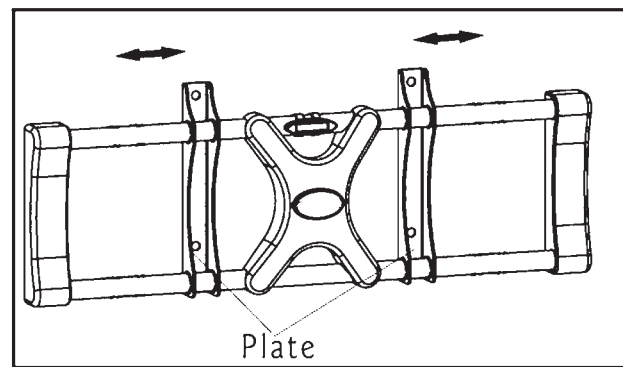
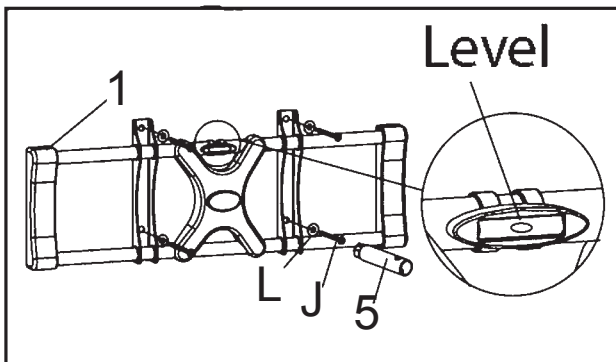

Fig. 3c
Fig. 3d
2. Place the wall mount flat against the wall with the center of the mount in the desired location, aligning the holes in the mount with the studs (Fig 3c). Use the wall plate as a template to mark the location of all four mounting holes on the wall. Make sure that the mounting holes are level and are parallel.
4. Use the supplied box-end wrench (5), the four long bolts (J), and washers (L) to attach the wall mount to the wall. Do not use wall anchors in wood stud walls.
5. Use the built-in level to level the wall mount (Fig 3d), repositioning as necessary, then securely tighten the bolts.
3. Insert a wall anchor (K) into each pre-drilled hole and lightly tap it with a hammer until the wall anchor is flush with the wall.
4. Use the supplied box-end wrench (5), the four long bolts (J), and washers (L) to attach the wall mount to the wall with the wall anchors.